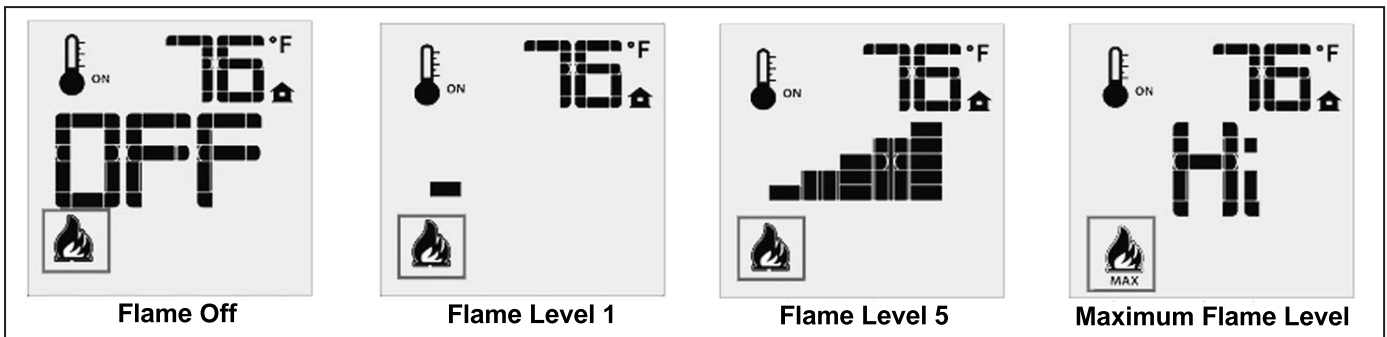

Figure 13: Remote Control's Flame Levels.
The Proflame 2 GTMF has six (6) flame levels. With the system on, and the flame level at the maximum in the appliance, pressing the Down Arrow Key once will reduce the flame height by one step until the flame is turned off. The Up Arrow Key will increase the flame height each time it is pressed. If the Up Arrow Key is pressed while the system is on but the flame is off, the flame will come on in the high position (refer to Figure 13 below). A single “beep” will confirm reception of the command.